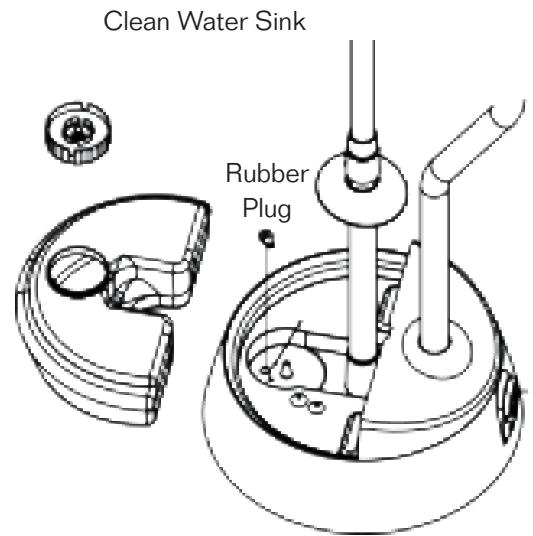

Figure 3
- Then release the rubberplug to empty the water in the pedestal of humidifier (See Figure 3);